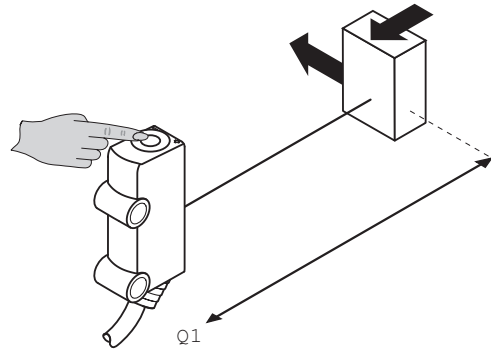

Figure 5: Sensing range setting
- 1 Position the object at the required distance and move it into the beam path of the device (note the min. and max. ranges, see figure 5, page 14).